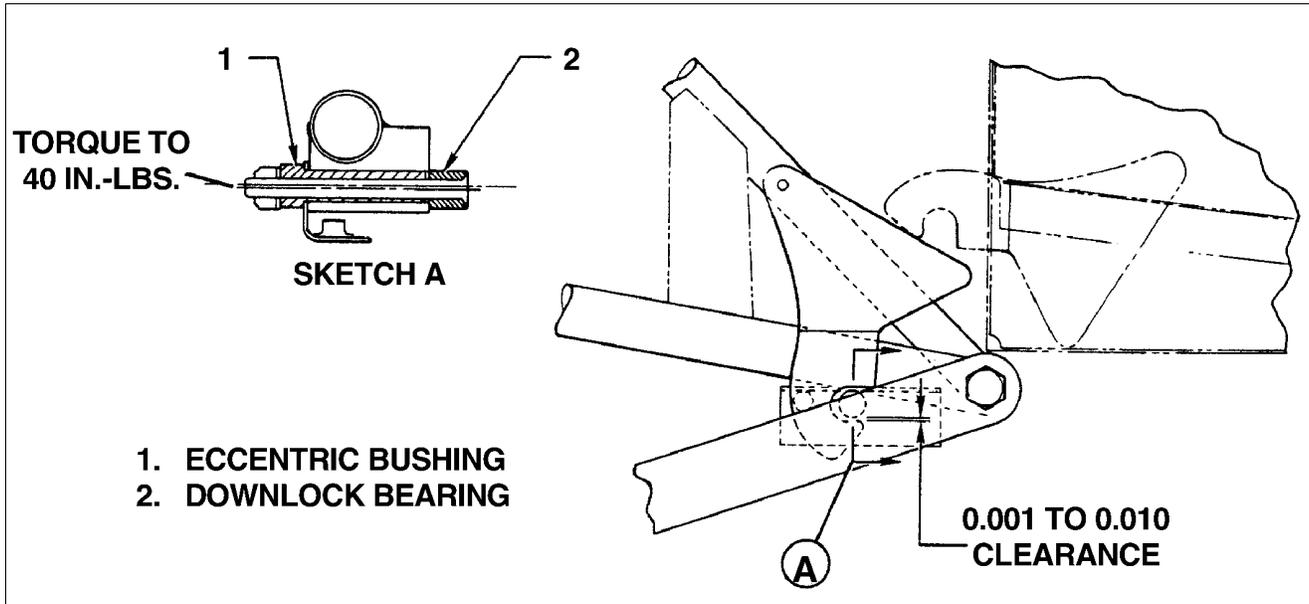

Figure 32-7. Adjustment of Eccentric Bushing
- (1) Determine that the upper and lower links are assembled with downlock hook attached, and through center travel of links checked according to Cleaning, Inspection and Repair of Nose Landing Gear.
- (2) Position link assembly to allow bolt holes in links to align with holes in gear housing and engine mount.
- (3) Add upper gear tension spring arm, bushings and washers on upper link attachment bolt.
- (4) Install bolt and tighten nut to allow link to rotate freely and safety.
- (5) Install lower gear tension spring arm on drag link bolt on right side of gear oleo housing, secure and safety. A washer is installed on bolt between lower drag link and arm.
- f. Adjust eccentric bushing (used for downlock pin) with gear extended and downlock engaged to obtain .001 to .010 clearance between bottom of downlock pin (bearing) and downlock hook (Refer to Figure 32-7).